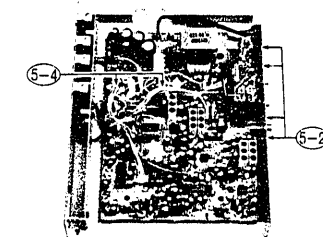

Fig. 5
5. Rear Jack Circuit Board Removal (Fig. 5)